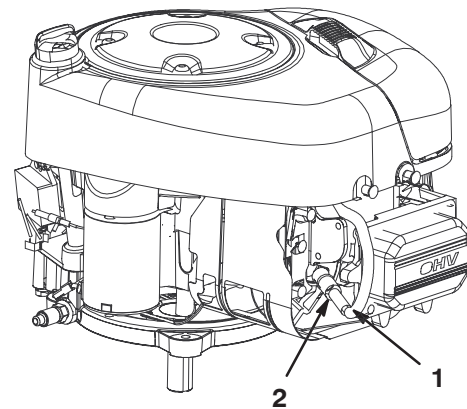

Figure 23
5. Reach under the body of the machine above the left rear wheel and disconnect the wire from the spark plug (Fig. 23).
3. Connect the wire to the spark plug (Fig. 23).